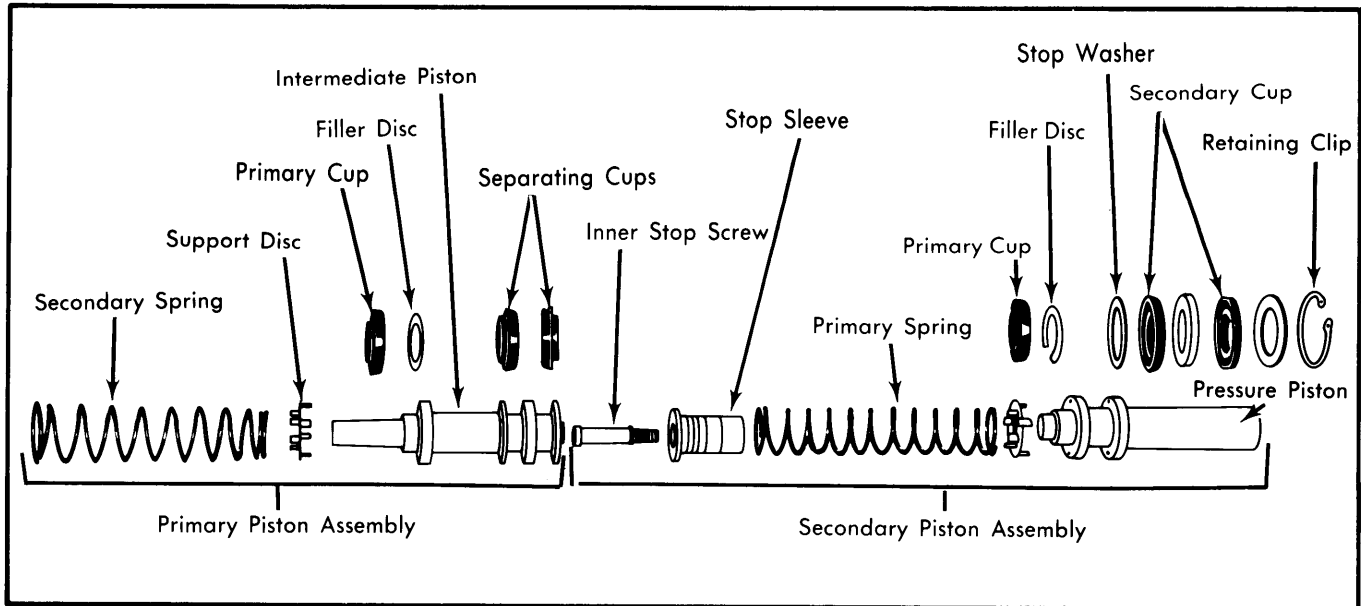

Fig. 4 Master Cylinder Piston Assembly
**Reassembly** — Reverse disassembly procedure and note the following: Make sure pressure and intermediate piston cups are installed correctly. See Fig. 4. Use new "O" ring on master cylinder between cylinder and power unit.